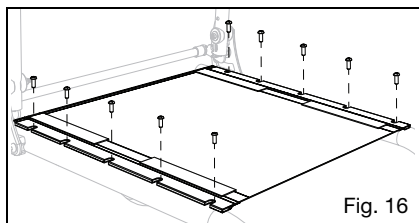

Fig. 16
2. Loosen the Phillips head screws (Fig. 16) on the same side of the seat upholstery as the tension adjustable flap.
6. Retighten the Phillips head screws (Fig. 16).
1. Remove the 5mm Phillips head screws (Fig. 16) from the seat rails on each side of the frame and set aside.
5. Replace the 5mm Phillips head screws (Fig. 16) by partially threading into place. Once all screws have been started, go back and tighten to secure.